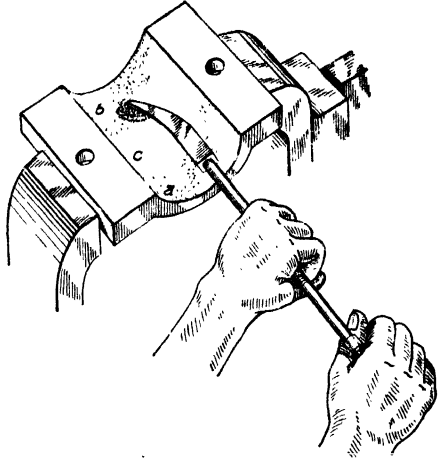
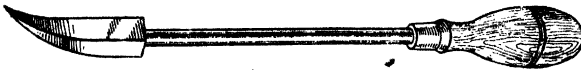

Fig. 14. Inside of Bearing Showing Spots Which Need Scraping
Fig. 15. Type of Bearing Scraper
**Scraping Process.** With the shims filed, place them in position and give the bearing another fitting. Remember the filing was done to bring the bearing together. When it is properly closed, the rod should fit tight enough to require some effort to push it around. Taking for granted that the bearing has been given a fitting and that it has been found to contain a number of black spots, as shown in Fig. 14, the scraping will be begun. For this operation a bearing
scraper, Fig. 15, is used. This may be procured at any supply store. The scraper is held as shown in Fig. 14. However, one who is accustomed to scraping may be able to handle the instrument better in another position. One very important point must be borne in mind and that is that the word scraping does not mean—as it usually does—scratching; scratching is detrimental to the bearing. By scraping is meant cutting from the surface of the bearing a very thin shaving of metal and at the same time leaving the surface of the bearing smooth.
The real object of scraping is to get the bearing to touch the crankshaft at every point. A bearing may be said to be a good one if every  $\frac{1}{32}$  inch of the surface touches the crankshaft. It will be supposed that the bearing needs scraping. It does not show little black spots every  $\frac{1}{32}$  inch. Instead there are groups of spots, at each end as at *a* and *b*, Fig. 14, while in the center portion *c* there are no spots, which means that at this point the bearing is not touching the shaft at all. The object of the scraping is to make the center portion as well as the two ends touch.